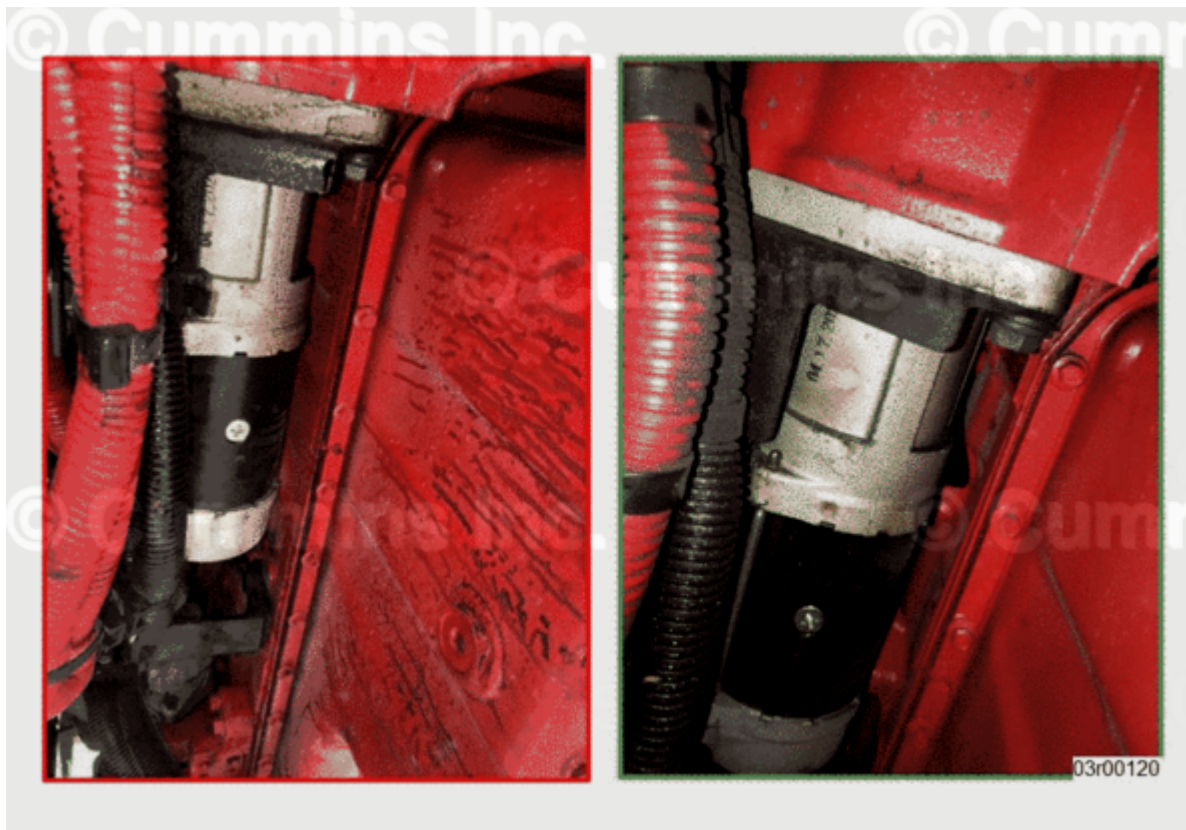

Figure 1, Left: Signs of Excessive Oil from Crankcase Breather Tube. Right: Normal Oil from Crankcase Breather Tube.
- Significant lubricating oil carryover from crankcase breather tube, pooling or dripping oil on starter, wiring harnesses, and/or vehicle components including frame, lubricating oil pan, or body. See Figure 1 below.